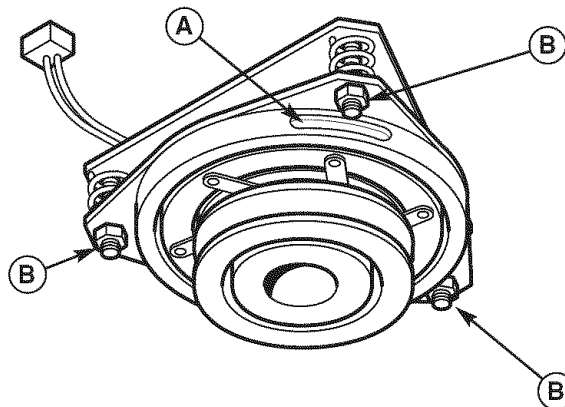

Figure 22. PTO Clutch Adjustment
2. See Figure 22. Note the position of the 3 adjustment windows (A) in the side of the brake plate and the nylock adjustment nuts (B).
4. Alternately tighten the adjustment nuts (B, Figure 22) until the rotor face and armature face just contacts the gauge.